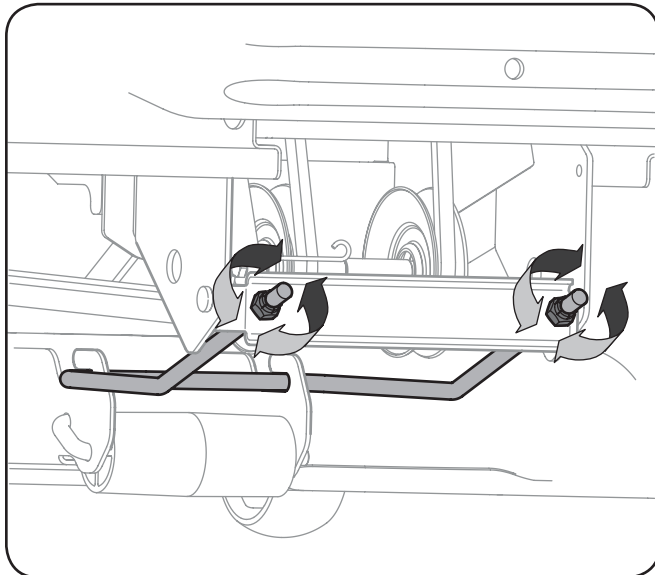

Figure 6-7
4. To *raise* the front of the deck, tighten (thread inward) the hex nut against the front hanger bracket. See Figure 6-7.
5. To *lower* the front of the deck, loosen (thread outward) the hex nuts, away from the front hanger bracket. See Figure 6-7.